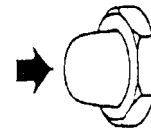

Figure 53. Emergency Stop Button
1. To stop the engine in the event of an emergency, **PUSH** the emergency stop button (Figure 53) inward. This button is located on the generator's engine operating panel, see page 30, Figure 11.